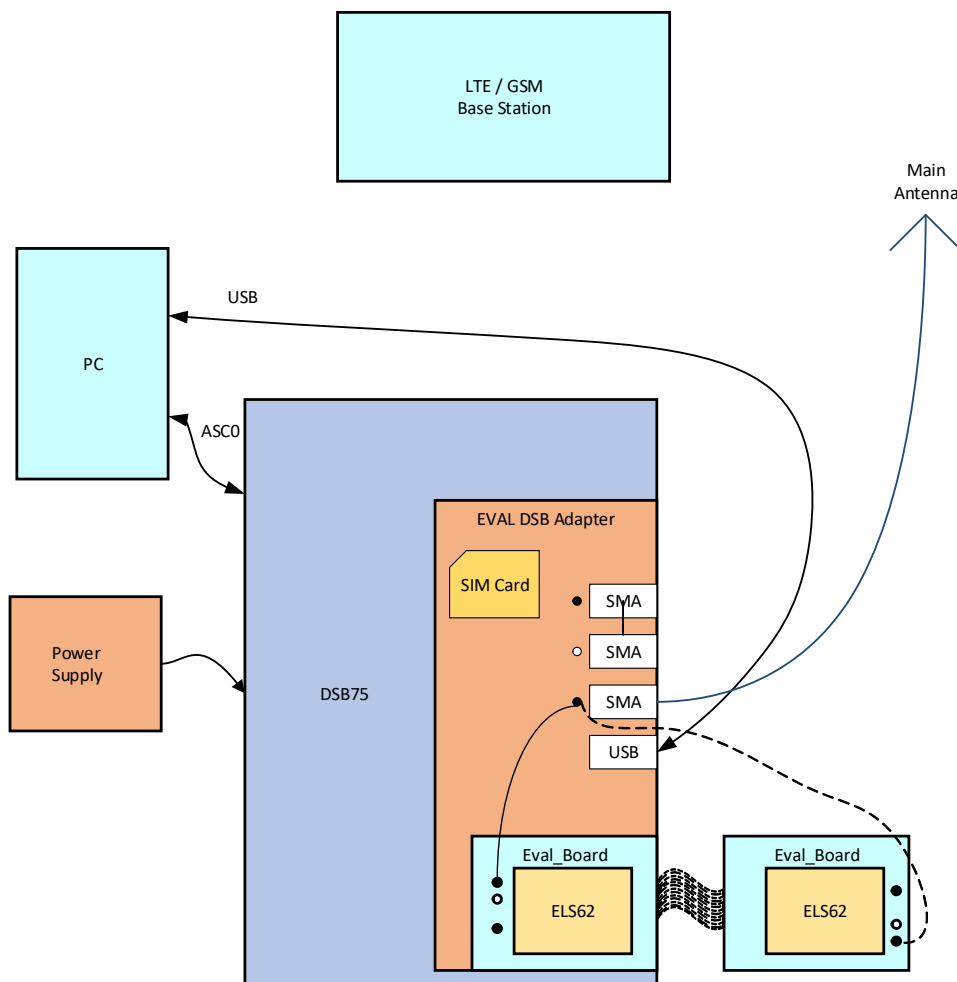

Figure 64: Reference equipment for Type Approval
7. For RF performance tests a mini-SMT/U.FL to SMA adapter with attached 6dB coaxial attenuator is chosen to connect the evaluation module directly to the GSM test equipment instead of employing the SMA antenna connectors on the ELS62-DSB75 adapter as shown in Figure 64. The following products are recommended: